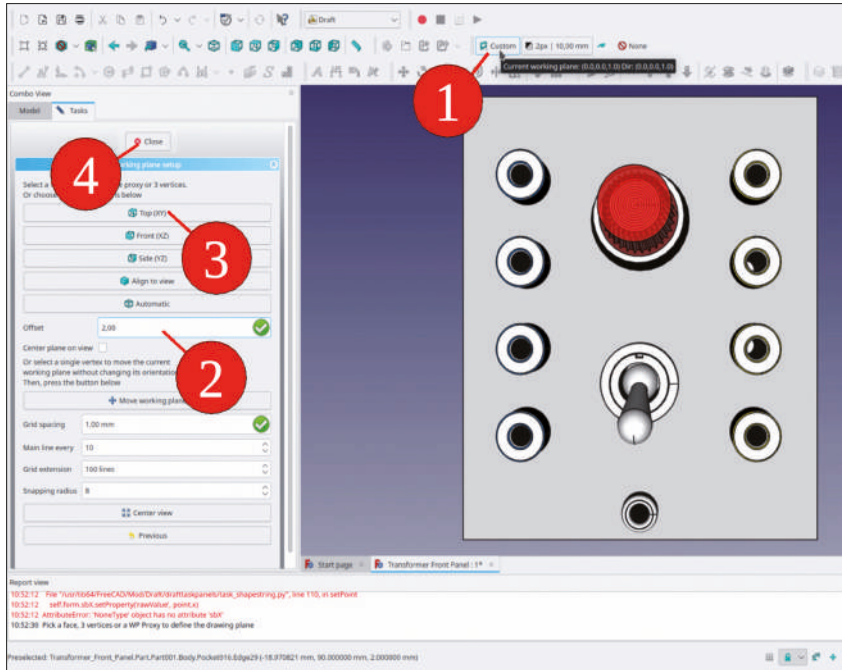

Figure 9-34
2. Switch to the 'Draft' workbench. Click on the 'Current Working plane' tool button. In the task window, set the 'Offset' parameter to 2.00 (your current panel thickness) and click the 'Top (XY)' button (Figure 9-34). The order of these steps matters!